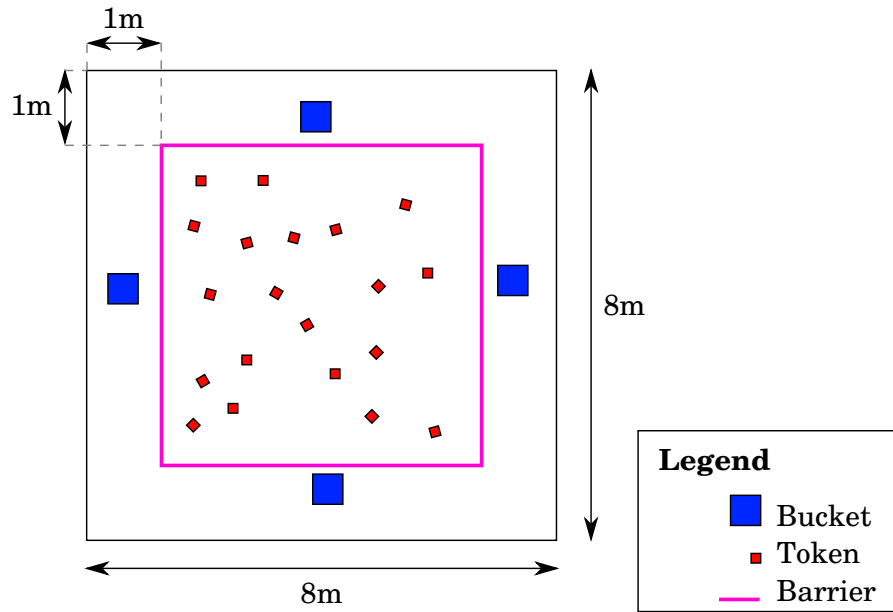

Figure 3: A bird's-eye view of the arena.
- 3.3.1 The match arena floor, overall, is an $8m \times 8m$ square, as shown in figure 3. The tolerance of these two dimensions is $\pm 0.25m$.